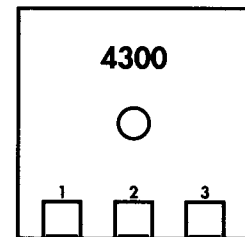

Figure 42
3. Remove slip-on terminals one at a time from the old timer and place on the same numbered connection on the new timer (see Figure 42).